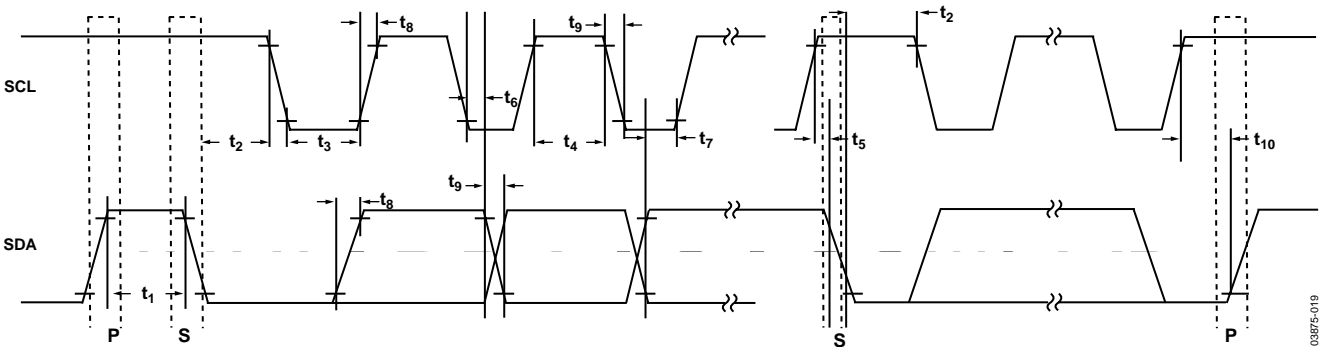
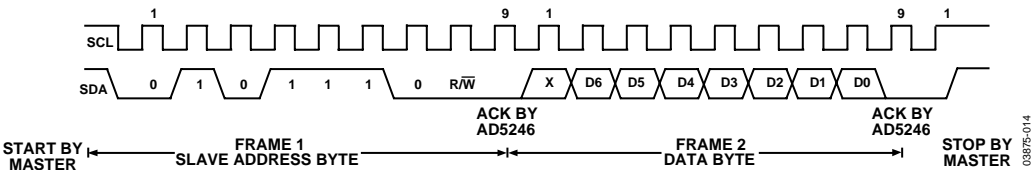
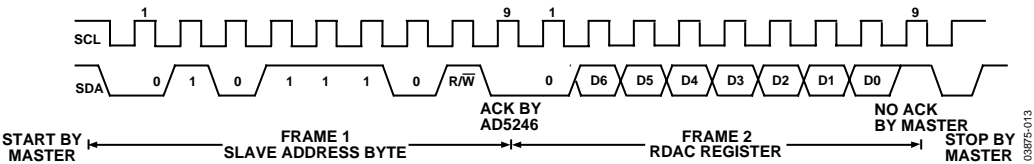

Figure 26. I²C Interface, Detailed Timing Diagram
Figure 27. Writing to the RDAC Register
Figure 28. Reading from the RDAC Register
³ See timing diagrams (Figure 26, Figure 27, and Figure 28) for locations of measured values.
1. The master initiates data transfer by establishing a START condition, which is when a high-to-low transition on the SDA line occurs while SCL is high (see Figure 27). The following byte is the slave address byte, which consists of the 7-bit slave address followed by an R/\overline{W} bit (this bit determines whether data will be read from or written to the slave device).
3. In read mode, after acknowledgment of the slave address byte, data is received over the serial bus in sequences of nine clock pulses (a slight difference from the write mode where eight data bits are followed by an acknowledge bit). Similarly, the transitions on the SDA line must occur during the low period of SCL and remain stable during the high period of SCL (see Figure 28).
4. When all data bits have been read or written, a STOP condition is established by the master. A STOP condition is defined as a low-to-high transition on the SDA line while SCL is high. In write mode, the master pulls the SDA line high during the tenth clock pulse to establish a STOP condition (see Figure 27). In read mode, the master issues a No Acknowledge for the ninth clock pulse (that is, the SDA line remains high). The master then brings the SDA line low before the tenth clock pulse, which goes high to establish a STOP condition (see Figure 28).